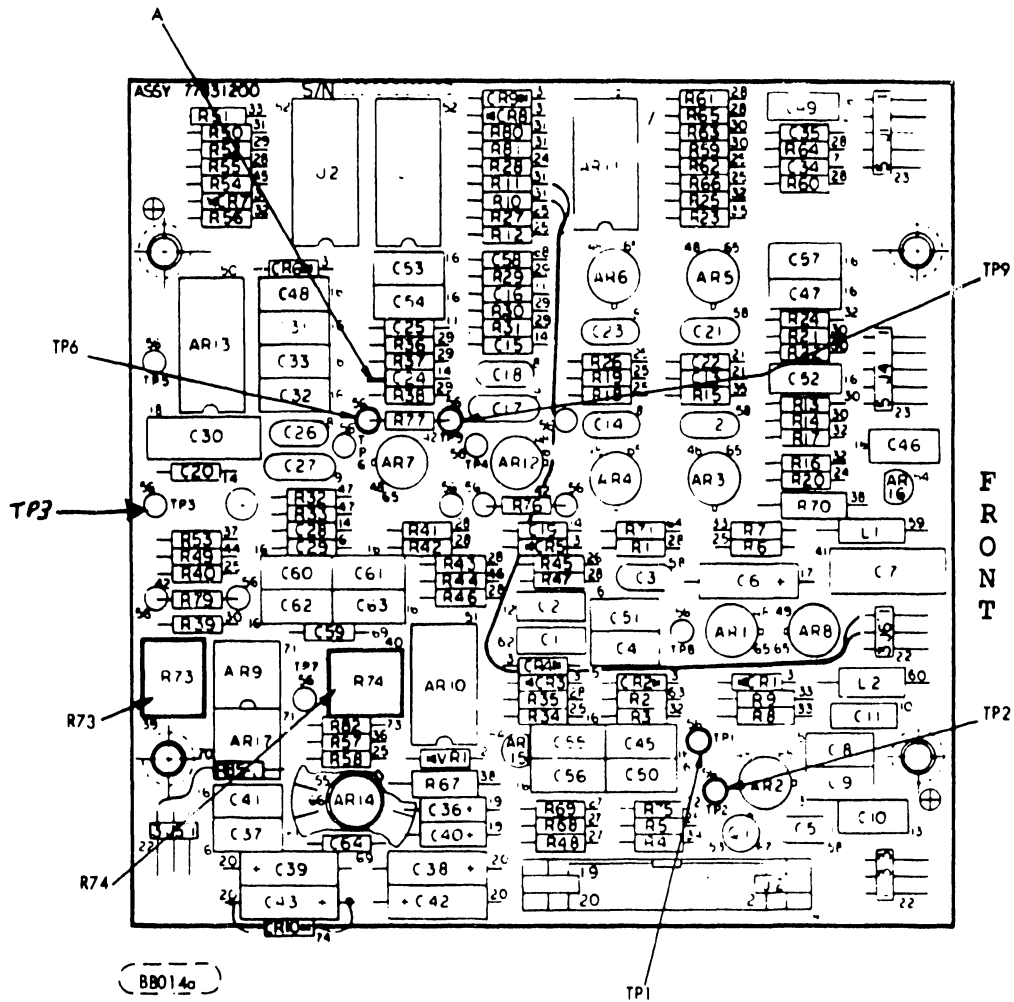

FIGURE 3-6 SERVO PREAMP TEST POINT LOCATIONS
18. Connect channel 2 of oscilloscope to TP3 of Servo Pre Amp board (Ref. Figure 3-6).